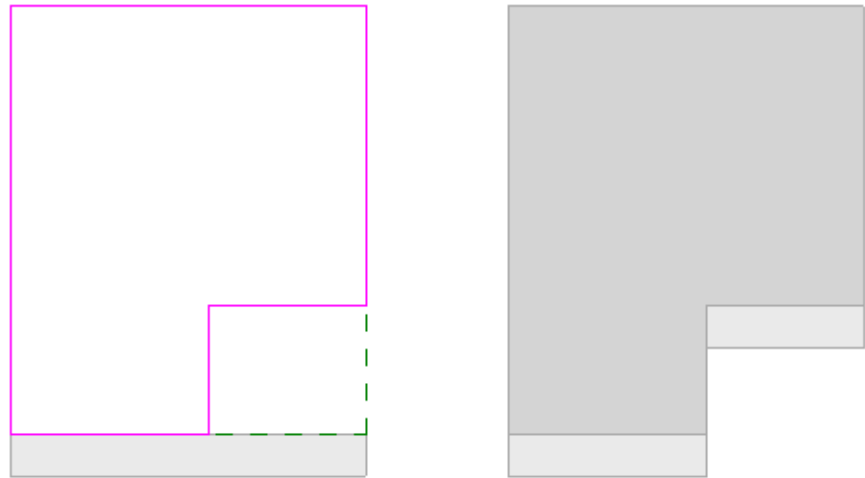

Figure 7–12
5. Once the profile is complete, click  (Finish Edit Mode) in the Mode panel. The footing now follows the new profile as shown on the right in Figure 7–12.